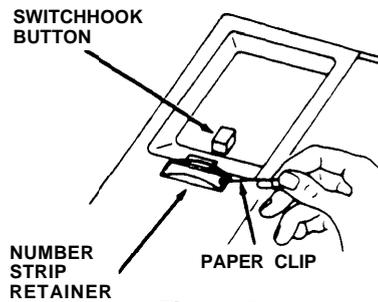

Figure 3
- Remove the number card retainer and the number card (see Figures 3 and 4).